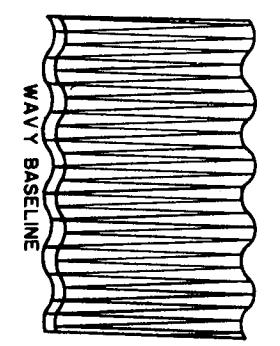

Figure 9. Waveform At Test Point 402.
- (6) Adjust core of Z403 (on AM/FM IF, MPX board) for maximum gain and as straight a base-line as possible on scope (see Figure 9). AC VTVM should read minimum.
- (7) With MPX generator modulated on right channel only, connect AC VTVM to Right RC DR OUT jack. Record reading on AC VTVM.
- (8) Set MPX generator to modulate left channel only. Adjust R107 SEPARATION CONTROL (on preamplifier board) for minimum reading on AC VTVM; at least 30 dB below reading recorded in Step (7). Record reading.
- (9) Connect AC VTVM to Left RC DR OUT jack. Same reading ± 2 dB as recorded in Step (7).
- (10) Set MPX generator to modulate right channel only. Same reading ± 3 dB as recorded in Step (8).
- NOTE:** If equal readings cannot be obtained in Steps (8) and (10), readjust Z402 slightly (on AM/FM IF, MPX board) and repeat Steps (7) through (10).